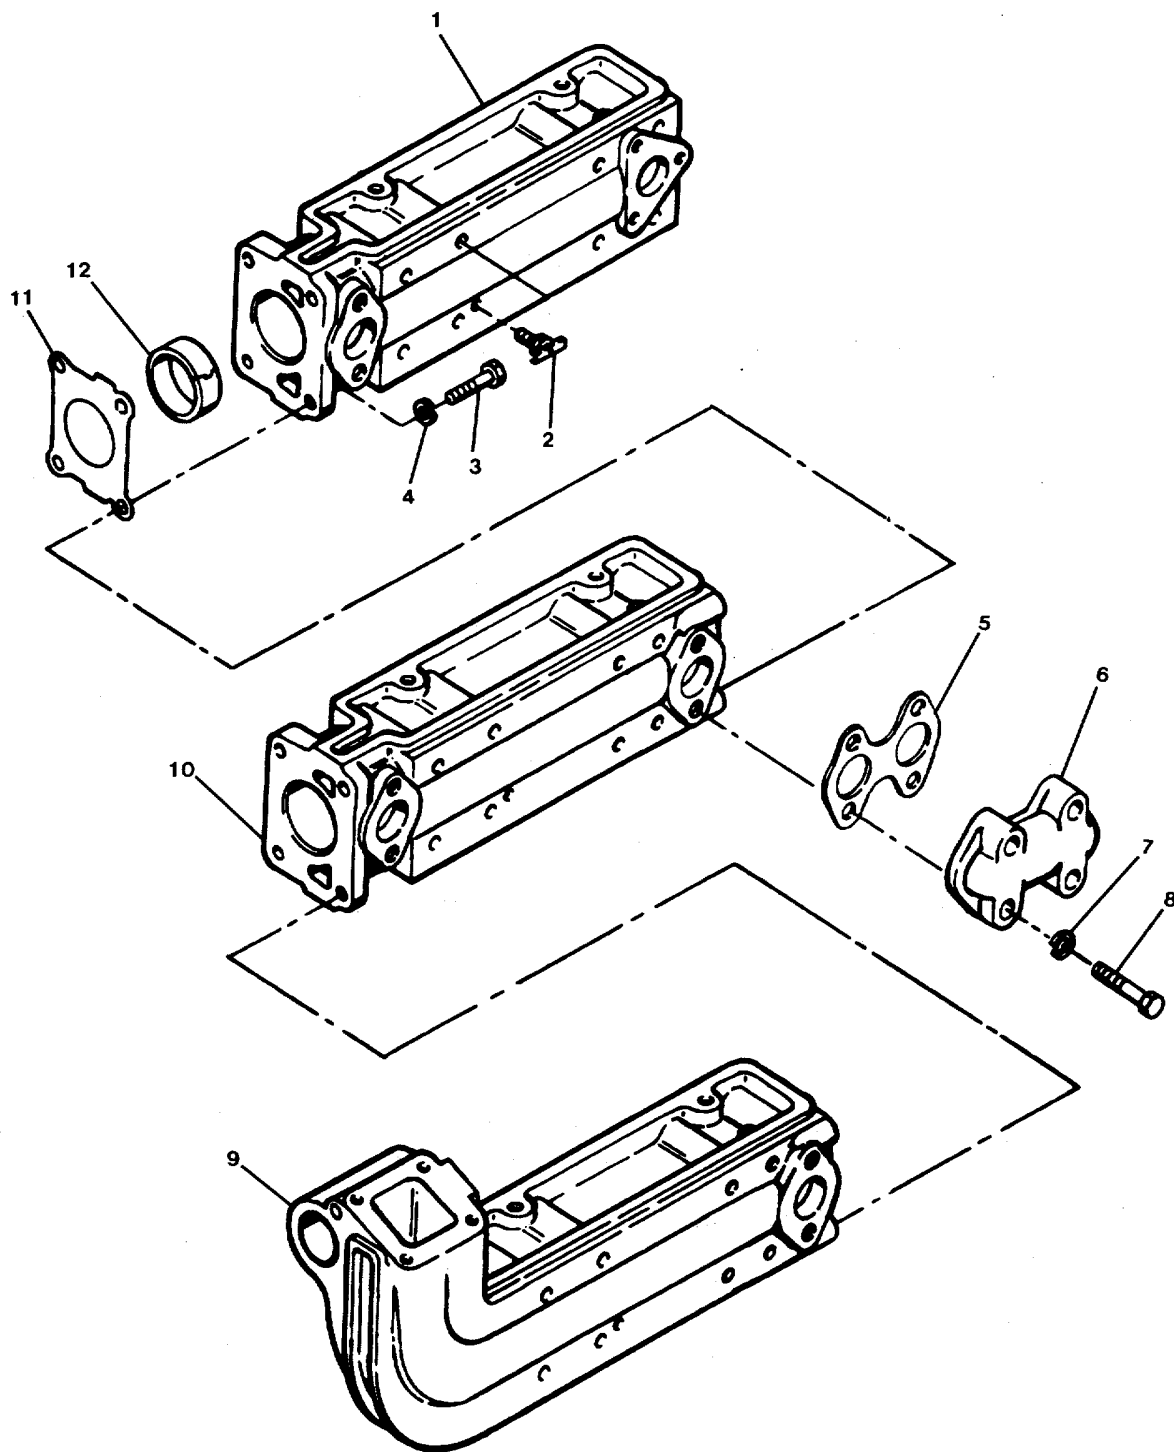

FIGURE 3-10. Exhaust Manifold Group.
- a. Lubricate preformed packings (8) with clean engine lube oil.
- b. Install preformed packings (8) in grooves of element pipes.
- d. Push lube oil cooler element (9) into engine block bore until all preformed packings (8) are in bore completely.
- e. Position preformed packings (10) on each threaded pipe of element (9).
- g. Position access cover (6) on gasket (7) with bolt holes aligned and threaded pipes of element (9) protruding through openings in cover (6).
- h. Install self-locking nuts (5), capscrews (4) and lockwashers (3). Tighten capscrews (4) to 30 ft-lb (40 N•m). Tighten self-locking nuts (5) to 45 ft-lb (60 N•m).
- i. Position access cover (2) on gasket (11) with bolt holes aligned.
- j. Install hexagon head capscrews (1) and lockwashers (12). Tighten capscrews to 30 ft-lb (40 N•m).
3.18. Repair Exhaust Manifold Group. (FIG. 3-10)**This task covers:****a. Pre-Inspection****b. Repair****c. Assembly****INITIAL SETUP:**Tools